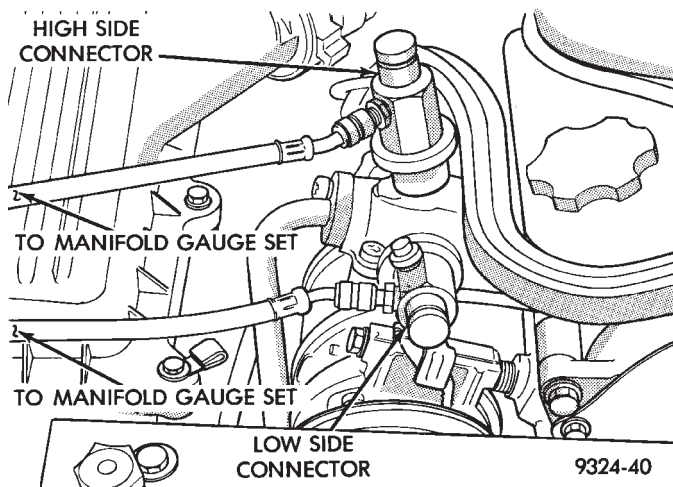

Fig. 3 Manifold Gauge Hook-up
(1) Establish your preferred method of measuring compressor discharge pressure. Use a manifold gauge set (Fig. 3) or a DRB II scan tool (Refer to 1993 LH Body Diagnostic Manual).